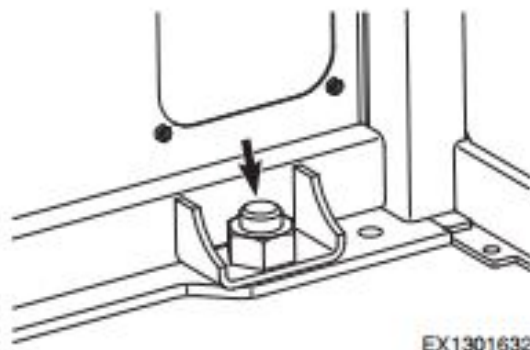

Figure 17
10. Install ROPS bolt (Figure 17).